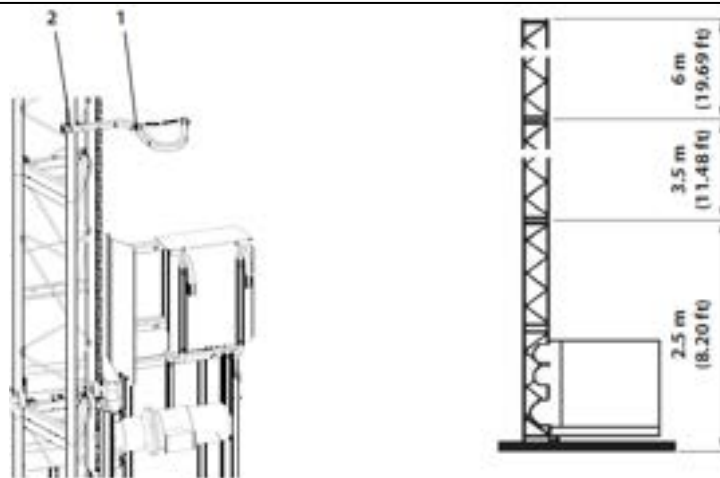

Figure 6.11
The base unit is supplied with the end-of-travel pad (1) and the downward overtravel pad (2) already installed, as shown in figure 6.11 and appropriately adjusted to be able to operate at the minimum height from the ground. In normal operating conditions, the downward end-of-travel pad (1) has the function of stopping the cabin at the right height from the ground and is positioned about 5.25 in) lower than the overtravel pad (2). The overtravel pad (which is also a safety device) intervenes by stopping the cabin and interrupting the power supply if the normal downward end-of-travel malfunctions or is damaged. If the overtravel pad intervenes when the normal downward end-of-travel is in good operating condition, this indicates the machine is malfunctioning. One of the most probable causes is an increase in the braking distance, due to excessive wear and tear or poor adjustment of the motor brake.